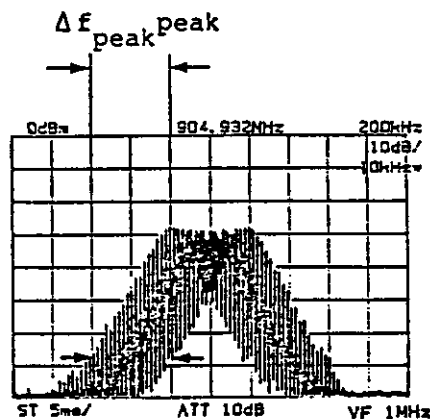
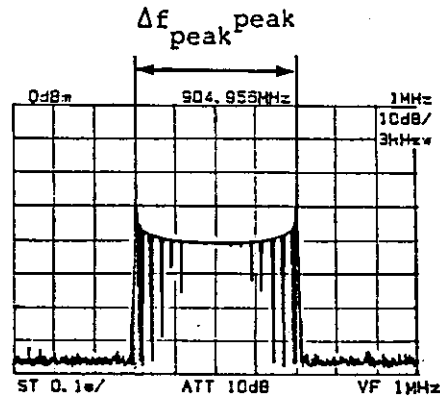

Figure 5-16 Waveform When  $\Delta f_{\text{peak}}$  Is Small
Figure 5-17 Waveform When  $\Delta f_{\text{peak}}$  Is Large
- ② Set the center frequency to the carrier frequency.
- ③ Set the frequency span to a value enabling easy measurement according to the peak deviation.
- ④ Set the resolution band width to a value including the principal sideband (more than five times the modulation frequency).
- ⑤ Figure 5-16 shows a case where  $\Delta f_{\text{peak}}$  is small and Figure 5-17 shows a case where it is large. Measure the  $\Delta f_{\text{peak}}$  from the waveform.
- Figure 5-16: When  $\Delta f_{\text{peak}}$  is small
- Figure 5-17: When  $\Delta f_{\text{peak}}$  is large